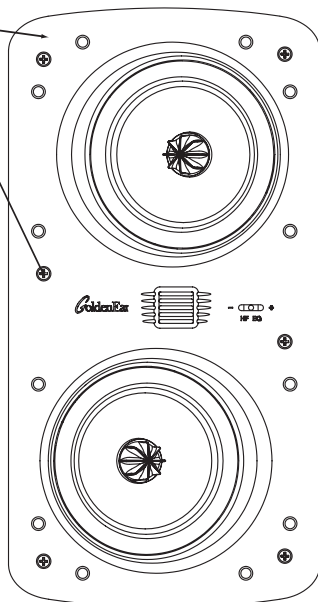

Figure 4
8. Loosen the six rotating lock arms on the speaker by turning the arm screws on the front of the speaker counterclockwise 1/2 to 1 turn, just enough to allow the lock arm to move freely (Figure 4).